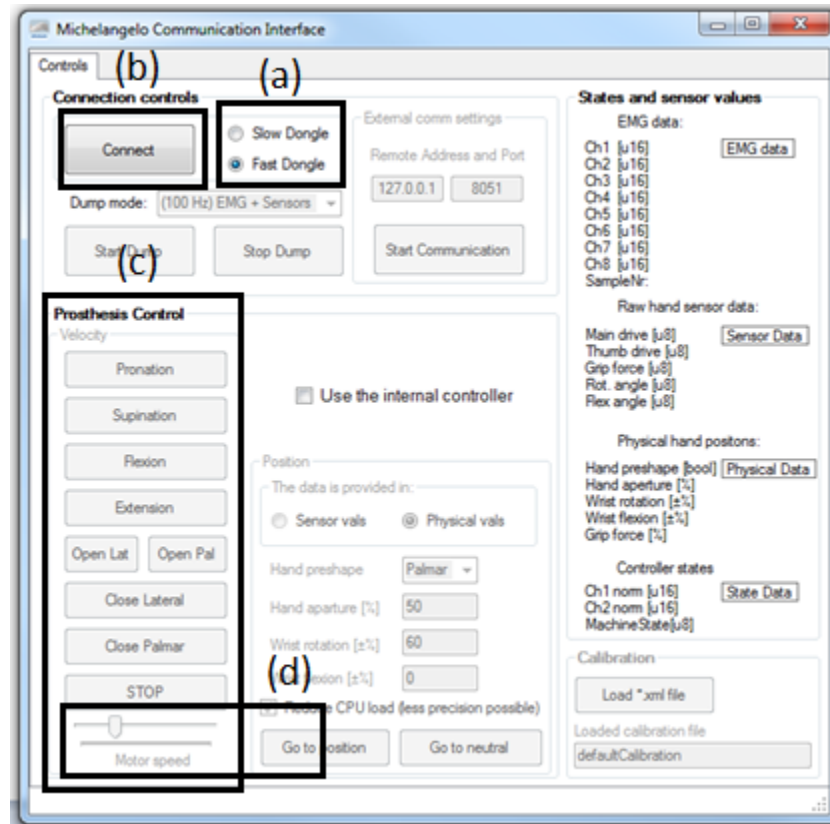

Figure 2: The view of the GUI when started
From the provided root folder of the application, go to DLLs/... and click on the application "MichelangeloGUI" (the .exe file). You shall see the User Interface depicted in Figure 2. To connect with the prosthesis, follow the steps mentioned below,
- a. Connect the Bluetooth Dongle to your computer. Based on the type of Dongle you have (i.e. either SLOW or FAST), on the GUI, you need to select the correct dongle-type by clicking on the corresponding RadioButton shown in Figure 2-box (a) (i.e. click on either 'Slow Dongle' or 'Fast Dongle' RadioButton).
- c. The panel on the left hand side in Figure 2, marked as (c), can be used to send '*velocity commands*' to the prosthesis. You can control the velocity (or speed) of any motor using the slider "Motor speed" (represented via the box (d)).